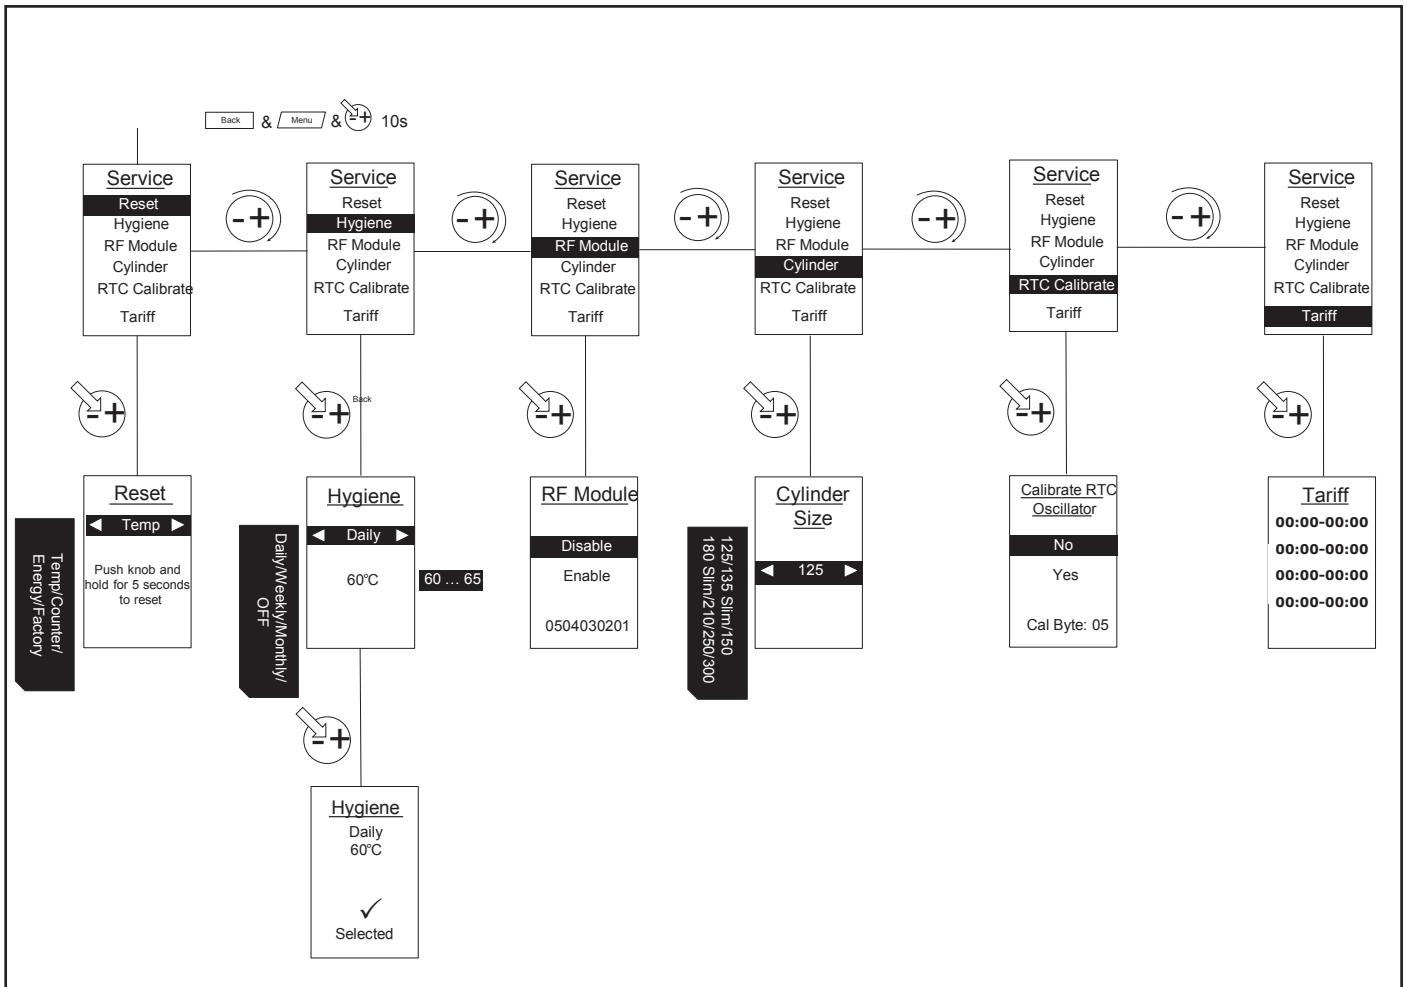

Figure 12: Service Menu for Factory Reset and Communications Set Up
- Hygiene mode can be set to either Daily, Weekly, Monthly or Off. Temperature for hygiene mode operation can then be set between a range of 60-65°C (see Figure 12 for how to access the hygiene function).
The cylinder heating can be controlled by a utility company, via the transceiver and gateway, to align heating periods with low cost electricity availability and reduce costs for the customer. This is "Normal mode" and how the cylinder will operate under normal circumstances. When a connection to the gateway is unavailable, the cylinder will go into standalone mode and follow the time periods set within the tariff option in the service menu (refer to section 7.2.1). The communication mode can also be manually changed as seen in figure 12.
- Select using the selector dial if you want to reset the temperature log, the energy log or the full system to the factory defaults. Once the required option is highlighted press and hold the selector dial for 5 seconds (see Figure 12 for how to access the reset function).